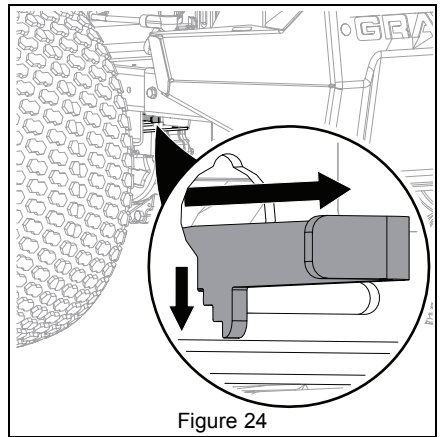

Figure 24
3. Pull both transaxle bypass levers out into bypass position. Move levers down slightly to secure position. See Figure 24.